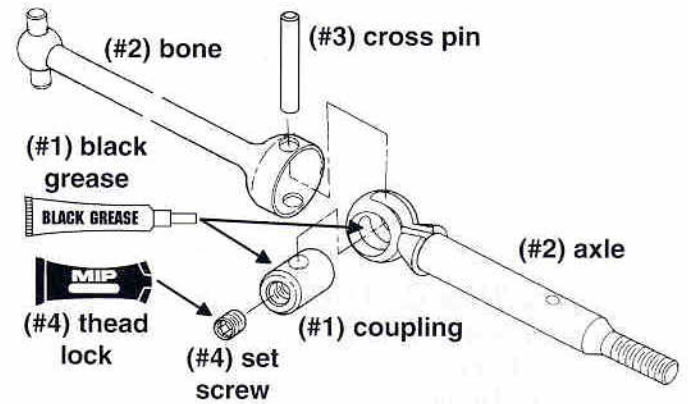

Fig. 136
For the bearing kits, skip ahead to fig. 136.
- Fig. 136** (1) Spread some Associated #6588 black grease inside the axle hole where shown, then on the coupling, and insert the coupling into the axle. (2) Slide the axle into the bone, aligning the cross holes. (3) Insert the cross pin, making sure it is evenly spaced on both sides of the bone. (4) Add the MIP thread lock to the set screw. Angle and turn the MIP CVD™ (Constant Velocity Drive™) so the set screw can be screwed in with the supplied Allen wrench. (5) Assemble the other axle.